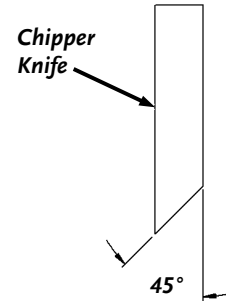

Figure 42
- It is extremely important to consistently maintain the 45-degree angle for proper performance (**Figure 42**).